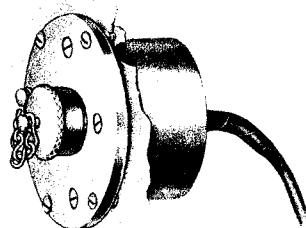

Fig. 8 — Installation of KS-8420 Jack
5.07 Install the KS-8420 jack at outdoor locations (for ships, boats, trains, etc) as follows (see Fig. 8):